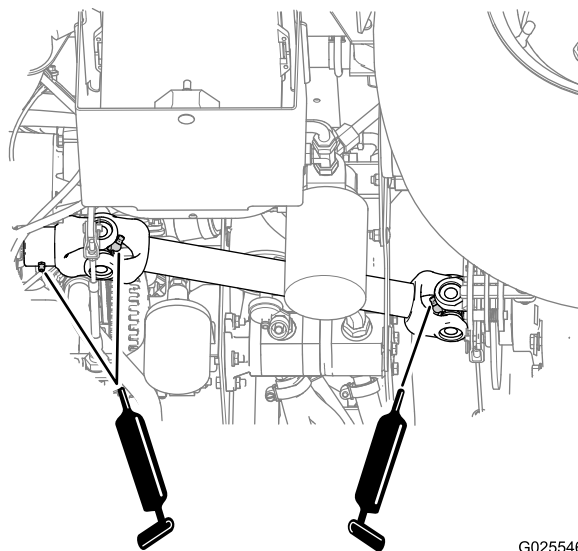

Figure 39
- **Drive shaft U-joints (2)**; refer to Figure 39
- **Sliding yolk (1)**; refer to Figure 39